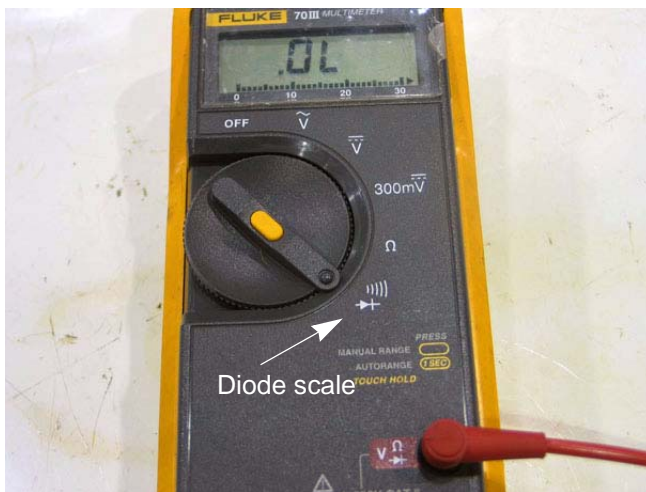

Figure 7.48
2. Set the DMM to the diode or Ω scale. See Figure 7.48.